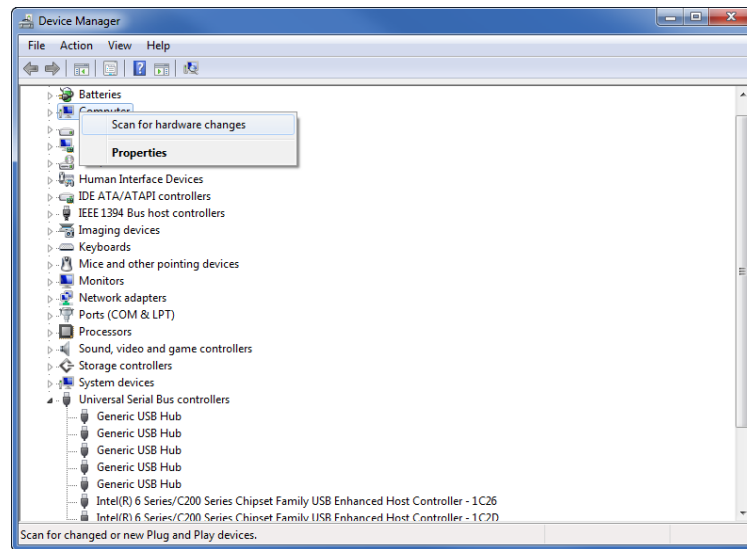

Figure 11. Selecting Scan for hardware changes
1. Right-click the Computer icon and then select the Scan for hardware changes option (Figure 11).